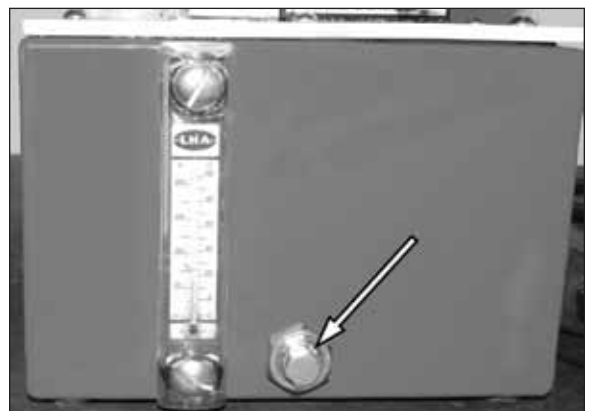

Figure 51.
1. See Figure 51. Remove the drain plug and drain the fluid from the reservoir.